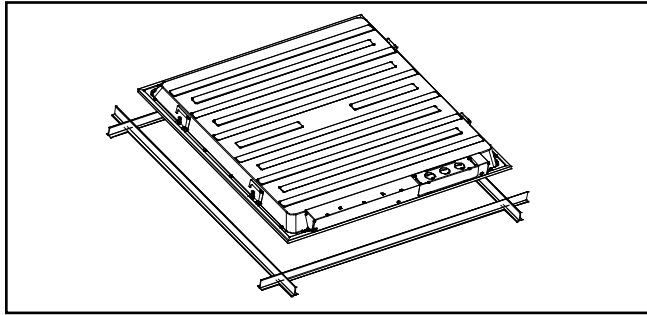

Figure 2.
- Pass fixture through the grid at a 45 degree angle and lay fixture into the grid (Fig. 2).